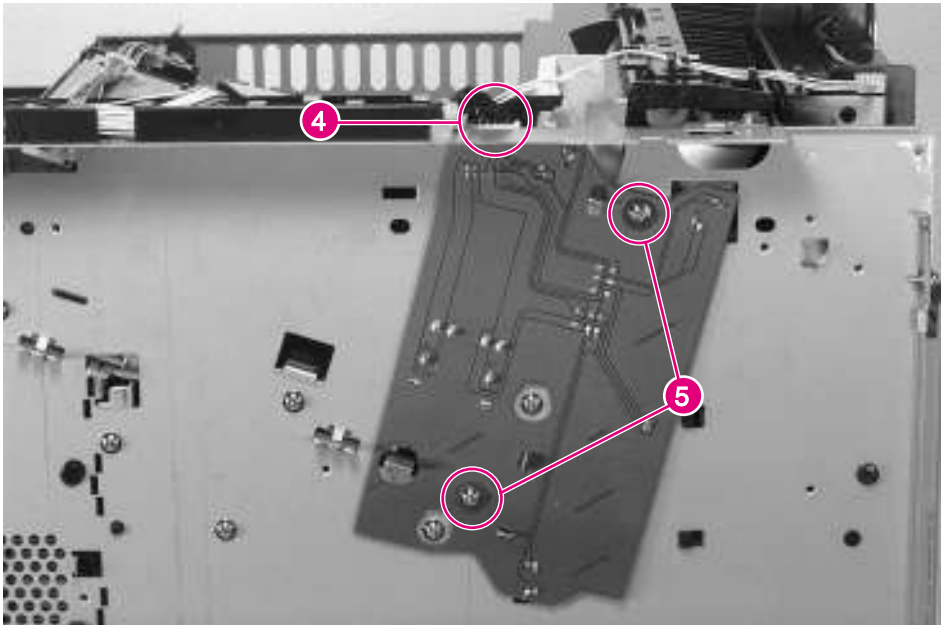

Figure 6-47 Output Paper Sensor PCA (4 of 4)
- 5 Unplug the connector (figure 6-47, callout 4).
- 6 Remove 2 screws (figure 6-47, callout 5), and unplug the connector on the back side of the PCA.